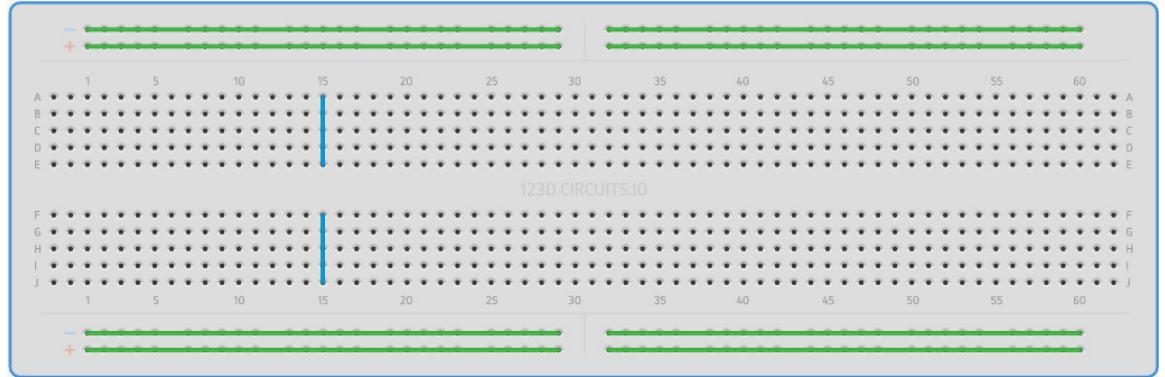

Figure 1.2.1.1: Breadboard
1.2.1. Connect the 5V pin of the Vaman-ESP to an extreme pin of the Breadboard shown in Fig. 1.2.1.1. Let this pin be V_{cc} .